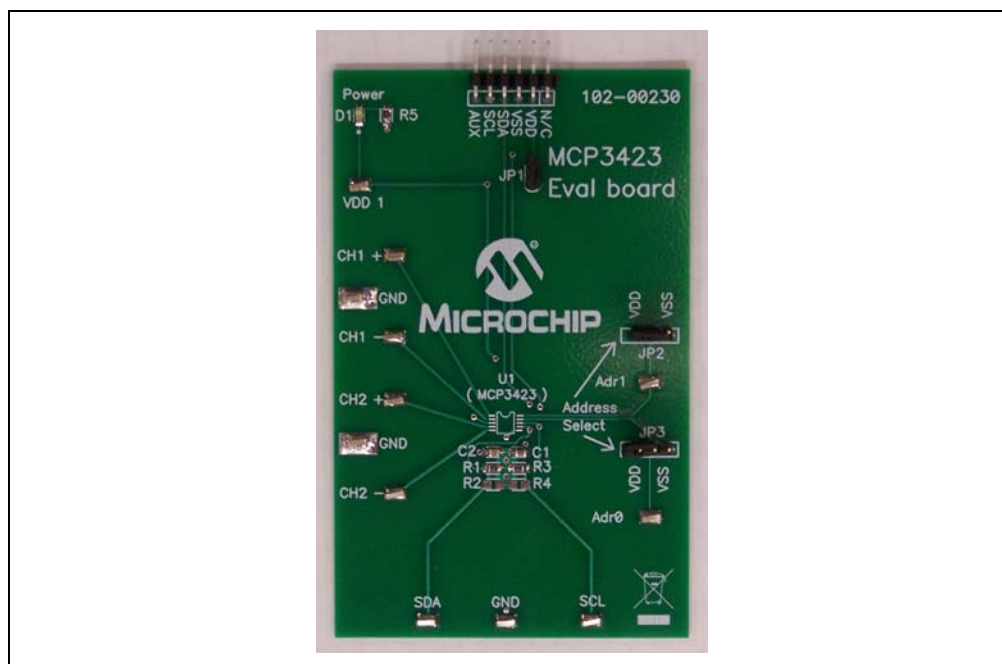
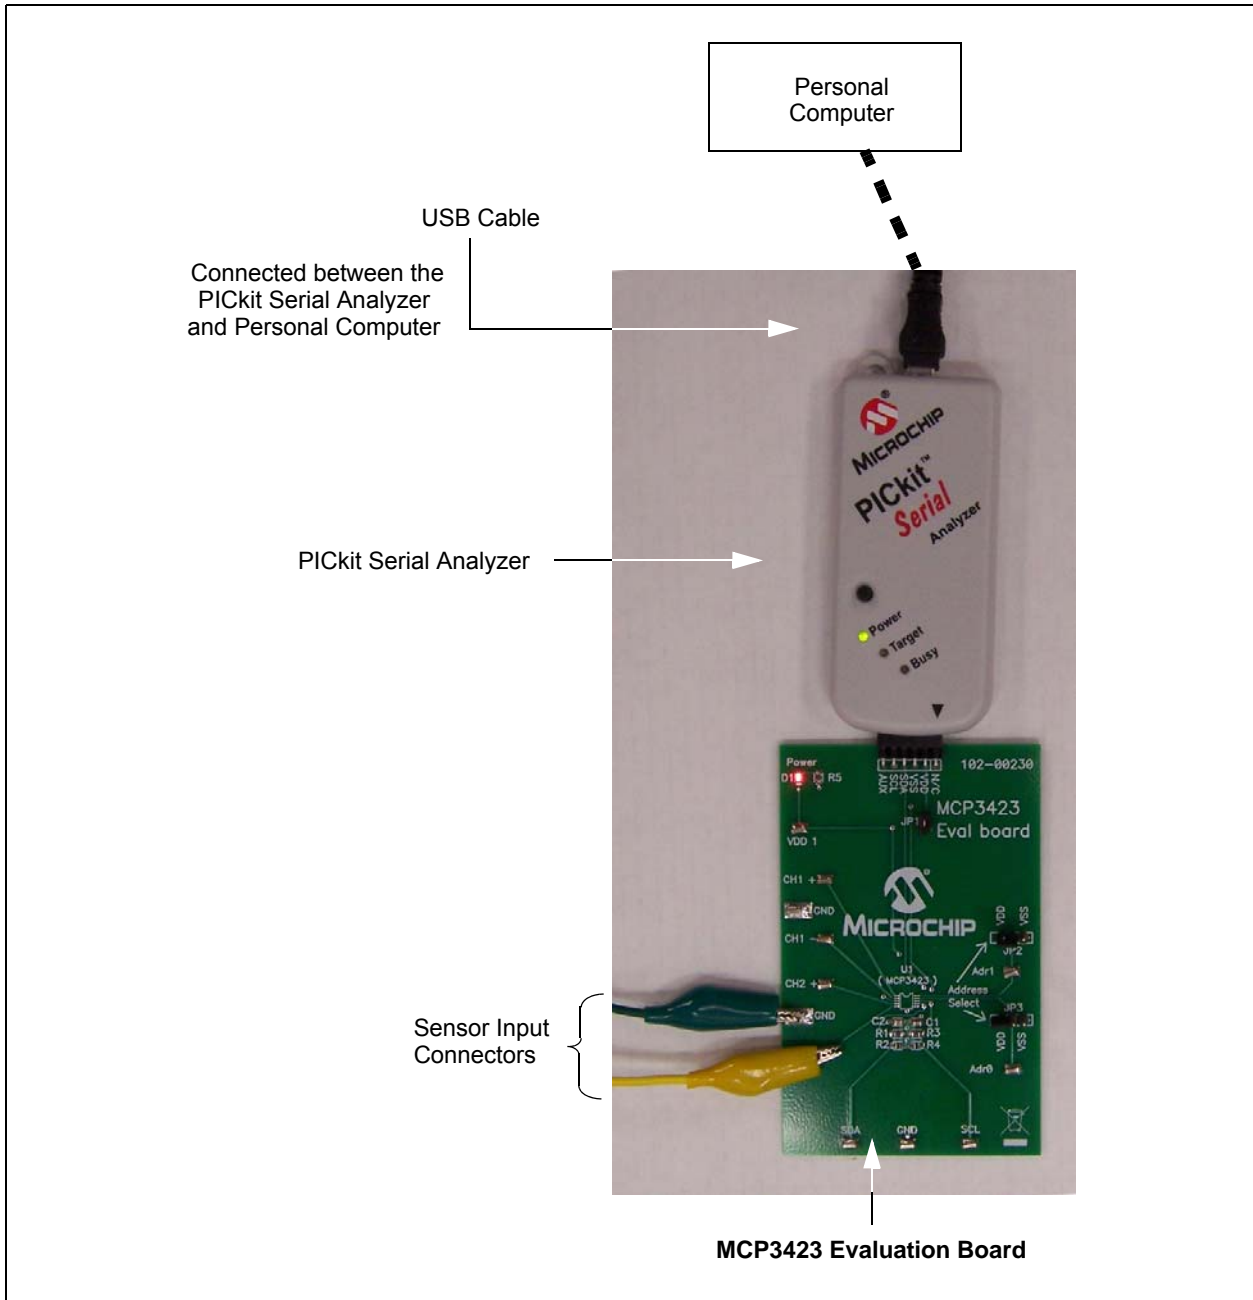

FIGURE 1-1: Front View of the MCP3423 Evaluation Board.
FIGURE 1-2: *MCP3423 Evaluation Board with the PICkit Serial Analyzer.*
Figure 1-1 shows the MCP3423 Evaluation Board, and Figure 1-2 shows the MCP3423 and PICKit Serial Analyzer.
1. Connect the MCP3423 Evaluation Board's 6-pin socket to the PICKit Serial Analyzer as shown in Figure 1-2.